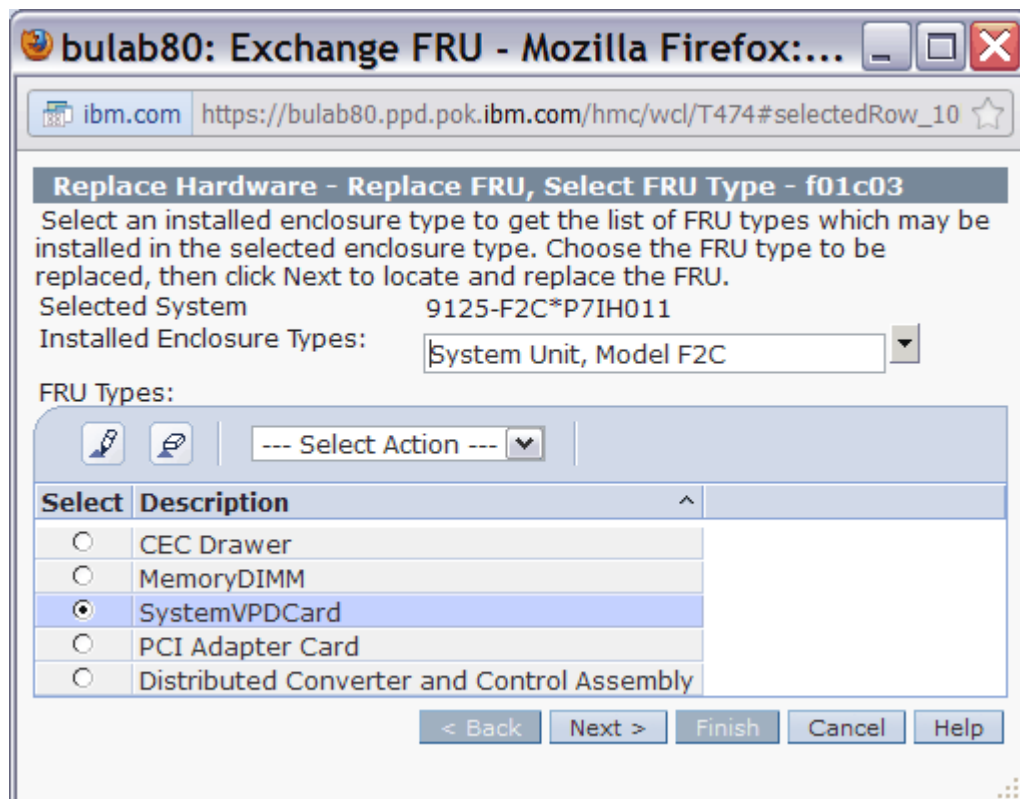

Figure 7 SystemVPDCard Selection
STEP 13 In the Replace **Hardware – Replace FRU, Select FRU Type** window *select SystemVPDCard* then *click* the **Next** button. See Figure 7.